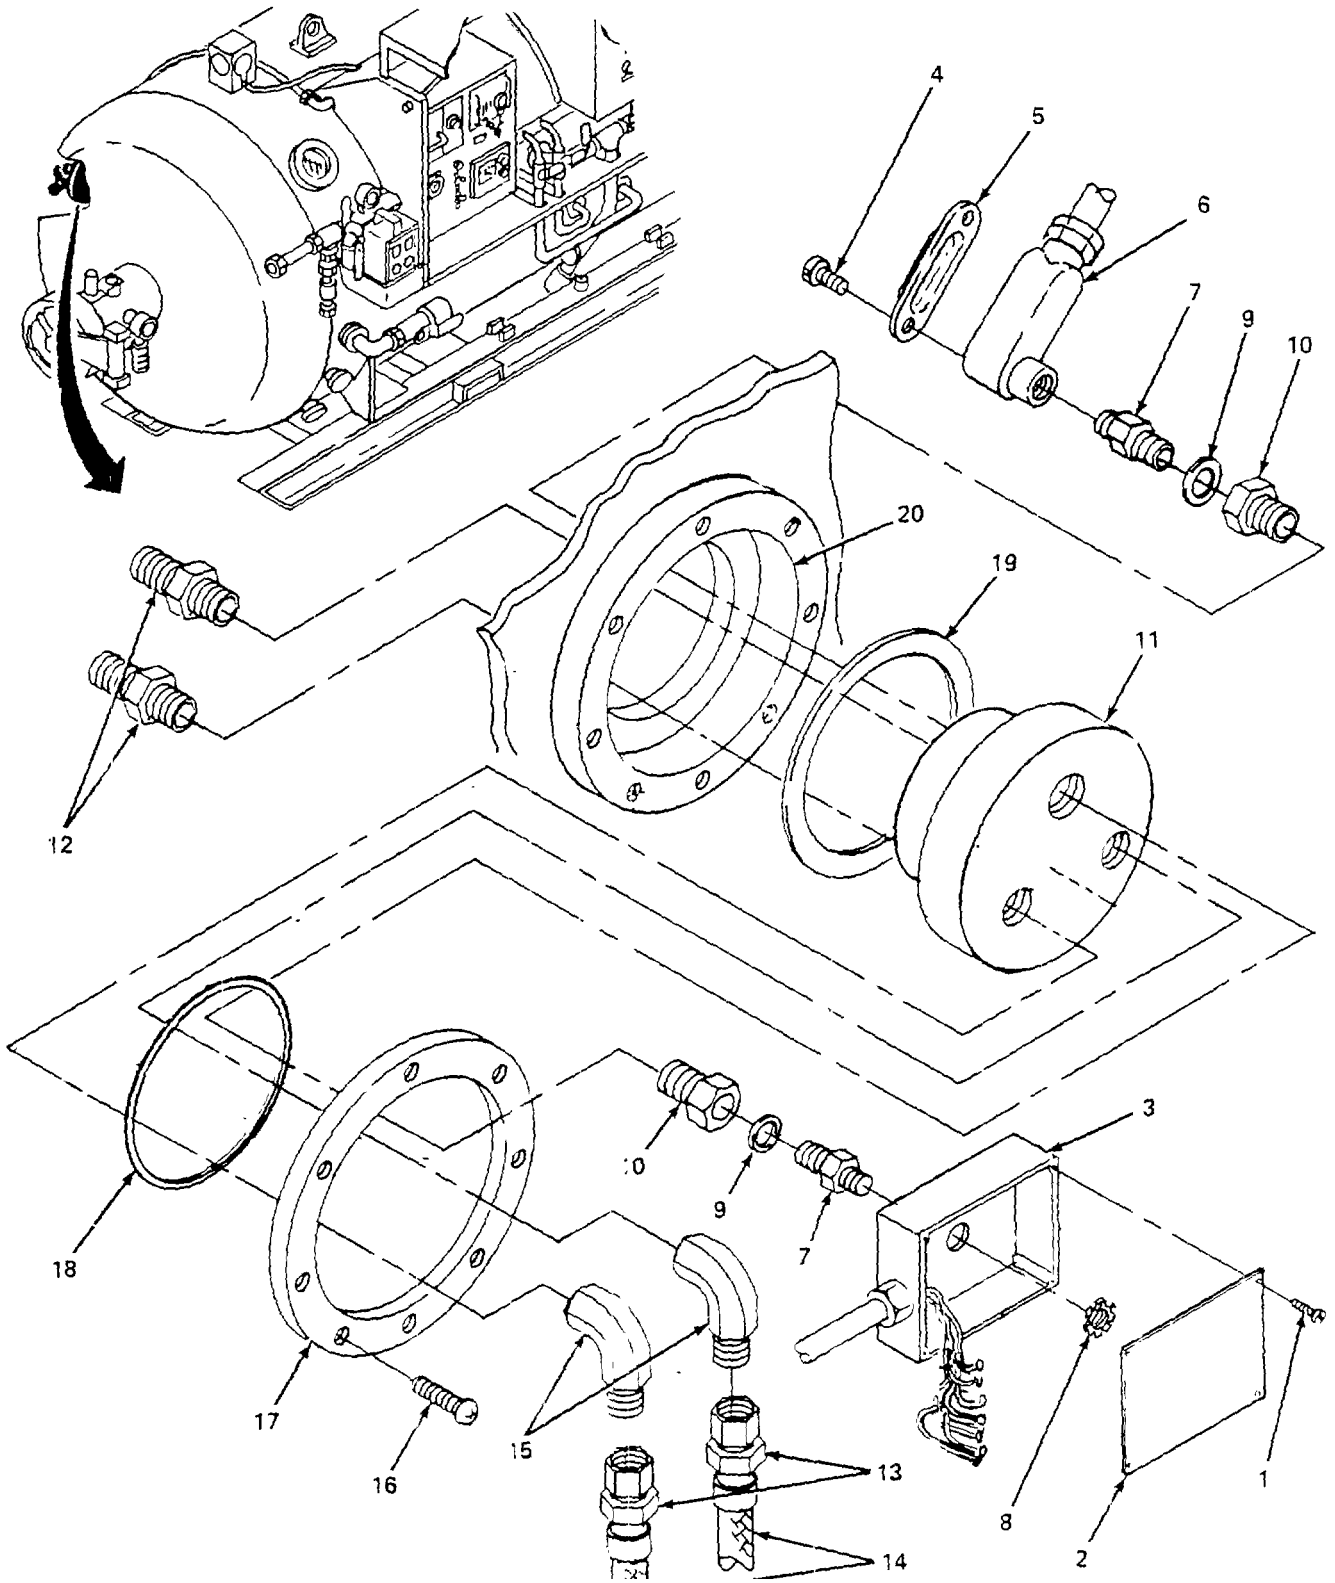

Figure 6-6. Electrical and Water Penetrator, Replace.
a. Replace Electrical and Water Penetrator. (figure 6-6)
- (1) Remove two screws (1) and remove cover (2) from junction box (3).
- (2) Remove two screws (4) and remove cover (5) from conduit elbow (6).
- (3) Tag and disconnect wires from junction box (3) and from conduit elbow (6).
- (4) Remove conduit elbow (6) from fitting (7).
- (5) Remove self-locking nuts (8) and remove junction box (3).
- (6) Remove two fittings (7) and preformed packing (9) from two fittings (10).
- (7) Remove two fittings (10) from penetrator plate (11).
- (8) Remove two fittings (12) from penetrator plate (11).
- (9) Loosen two fitting nuts (13) and remove lines (14).
- (10) Remove two elbows (15) from penetrator plate (11).